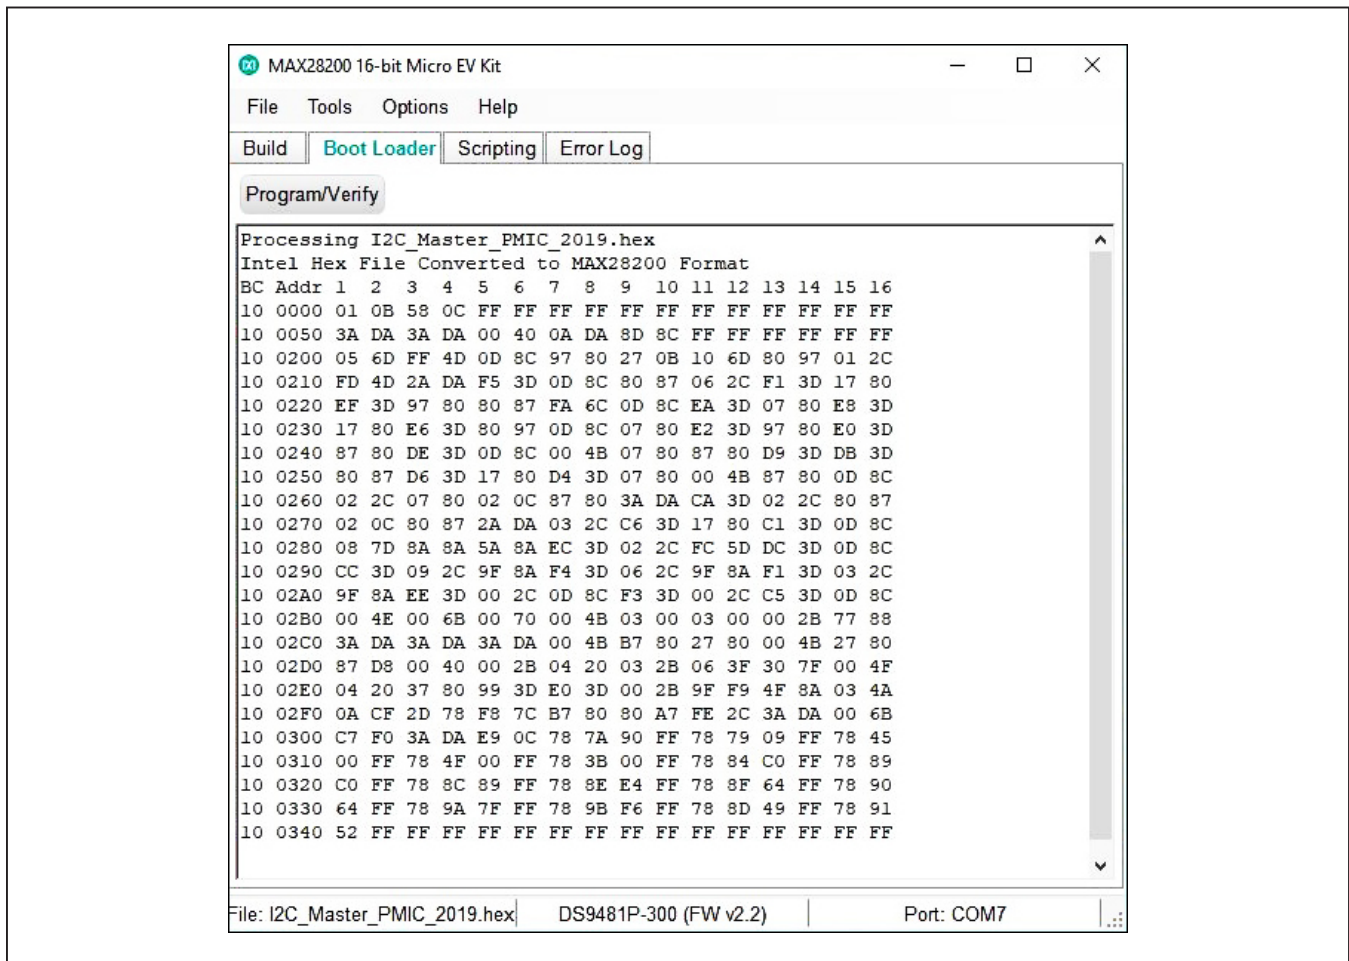

Figure 24. Programming the Device with the Data Pattern
- 7) The data pattern appears (Figure 24). Click the **Program/Verify** button to program the MAX28200.